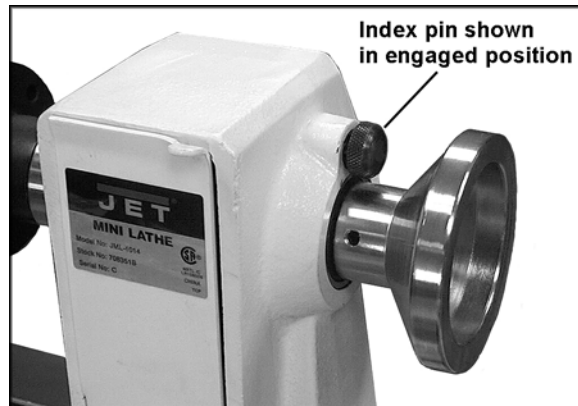

Figure 14
1. To use the index pin (Figure 14), screw it farther into the headstock until it engages a hole in the spindle pulley.